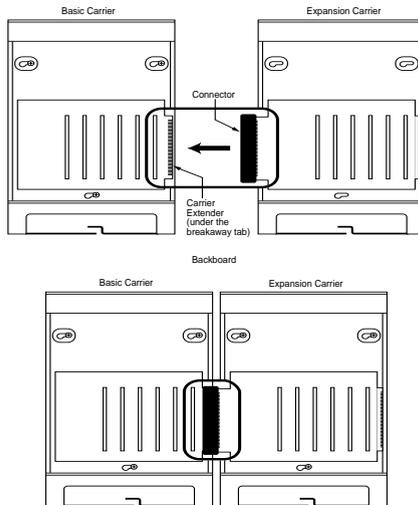

Figure 2-10. Connecting the Carriers
5. Make sure the connectors are seated securely and completely as shown in Figure 2-10.